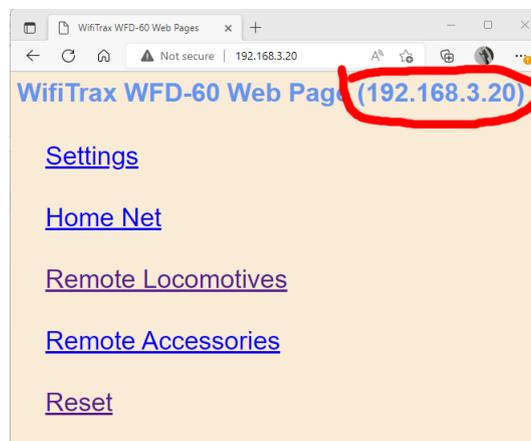

Figure 13 The Main Menu of the WFD-60 once it is Connected to a Home Net. The IP Address is Assigned by Your Router and is Circled in Red.
- (10) Now take your phone or tablet and use the Android or Apple Settings to connect to your home net.
- (11) Start Engine Driver or the full version of WiThrottle and make sure that it finds the WiThrottle Server of the WFD-60 and connect to it.
- (12) Go to the Web Pages so that you see the Main Menu. An example is shown in Figure 13. Make a note of the IP Address circled in Figure 13. This is assigned by your router. In this example the subnet is 192.168.3.0 and the IP Address 192.168.3.20 is the first one found available by the router. Yours might be different like 192.168.15.5 or even something like 10.0.0.9.
- (9) Now take your phone or tablet and use the Android or Apple Settings to connect to your home net.
- (10) Start Engine Driver or the full version of WiThrottle and make sure that it finds the WiThrottle Server of the WFD-60 and connect to it.
- (11) Go to the Web Pages so that you see the Main Menu. An example is shown in Figure 29. Make a note of the IP Address circled in Figure 13. This is assigned by your router. In this example the subnet is 192.168.3.0 and the IP Address 192.168.3.20 is the first one found available by the router. Yours might be different like 192.168.15.5 or even something like 10.0.0.9.